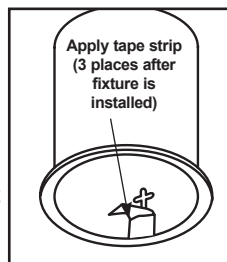

Figure 5
Step 5. Apply tape strips over each of the three retention clips and slots (four for the 4"). Cover completely with the tape strips. Use the supplied strips, do not substitute with duct tape (Fig. 5).